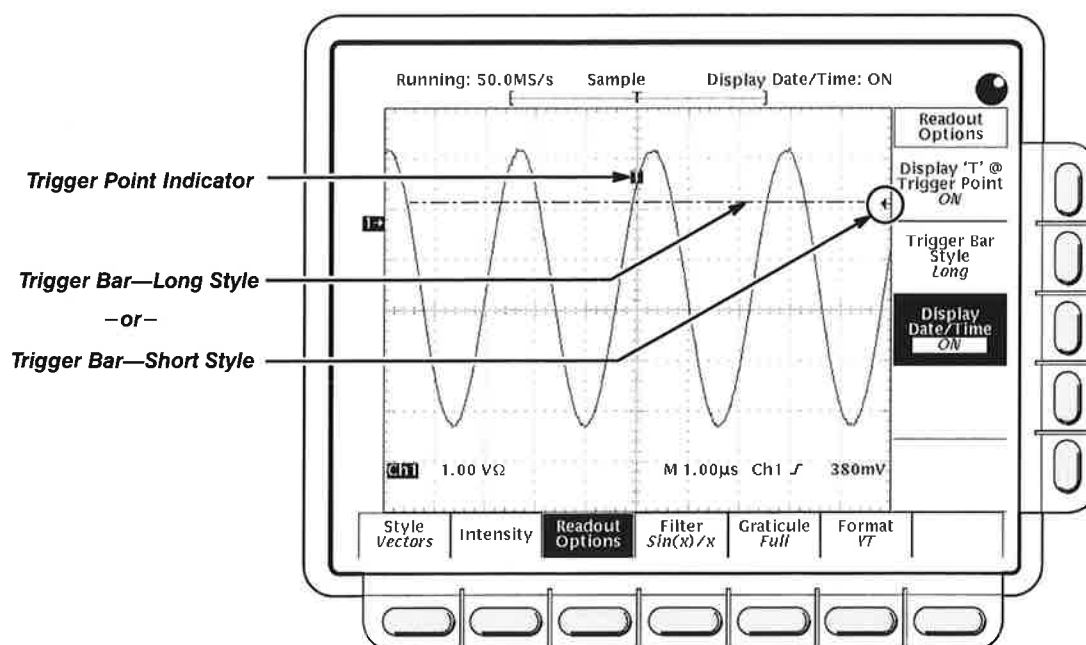

Figure 3-13: Trigger Point and Level Indicators
3. Toggle **Trigger Bar Style** (side) to select either the short or the long trigger bar or to turn the trigger bar off. (See Figure 3-13. Note that both styles are shown for illustrating purposes, but you can only display one style at a time.)